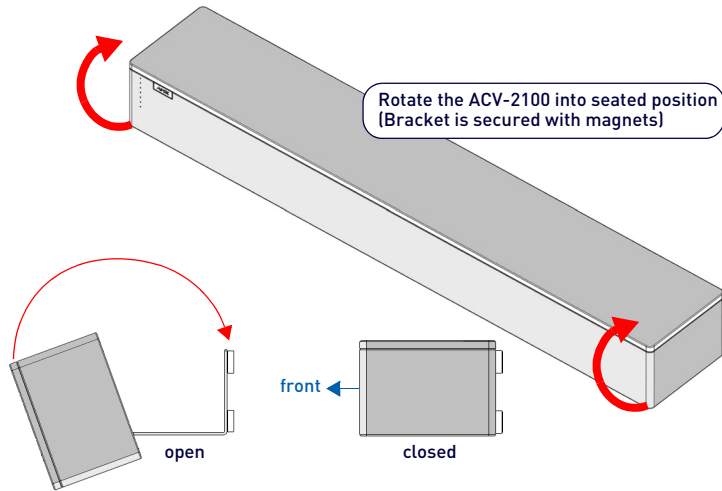

FIG. 6 ROTATING THE ACV-2100 INTO ITS SEATED POSITION
1. Use the Wall Mount Bracket as a template to mark the locations for the (4) mounting screws (not included). Use mounting screws and hardware appropriate for the surface being utilized to secure the Bracket to the wall. *Optionally, place the four included Wall Mount Spacers between the Bracket/Door and the wall to create a 5mm gap for routing flat cables if not hiding them behind the drywall (see FIG. 6).*
4. Rotate the ACV-2100 into seated position. The Wall Mount Bracket is secured with magnets (see FIG. 6).
After connecting all cables, close the Bracket to return the ACV-2100 to its seated position. The Bracket is secured via internal magnets (FIG. 6):